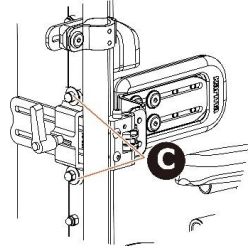

Figure 9.25
- To adjust the height, please loosen the nuts **(C)**, then adjust the support upward and downward to the suitable height. Last, remount the nuts **(C)** (See Figure 9.25).